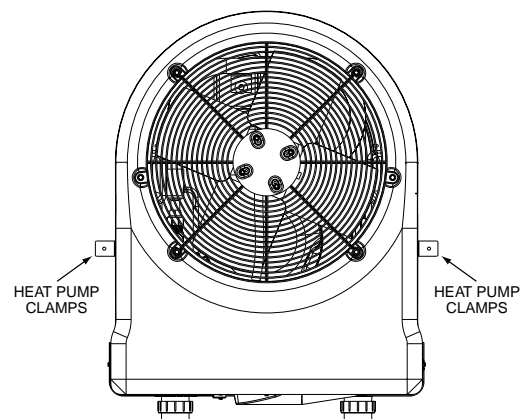

Figure 4.
3. Place the clamps at the base of the heat pump in the locations indicated in Figure 4, (2 in. undercut [notched area] on either side).